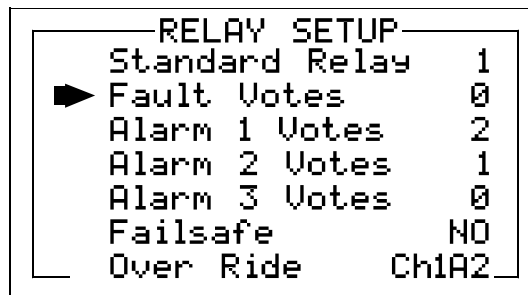

Figure 2.8
The menu shown in Figure 2.8 allows configuring of both the standard **Relay 1 & Relay 2** motherboard relays and the six optional relays on the 299-0003-01 discrete relay option PCB. Both standard and optional relays are programmed in this menu. Select the relay to be configured by pointing the arrow at the top menu item and pressing **EDIT**. The field will scroll through all eight possible relays (2 standard and 6 optional).
- **Fault, Alarm 1, Alarm 2, Alarm 3** menus in Figure 2.8 offers additional “voting” flexibility by controlling the channel alarm combinations that will trip the selected relay. Each *Votes* entry requires this quantity of channels, for of each type alarm be active before this relay activates. As illustrated in Figure 2.8 above, Standard Relay 1 activates when any 2 channels have Alarm 1 conditions, PLUS, any one channel has an Alarm 2 condition. And since the **Over Ride** menu (see description below) contains the **Ch1A2** entry Standard Relay 1 also activates if alarm 2 on channel 1 trips. Fault Votes and Alarm 3 Votes values are 0 therefore Fault and Alarm 3 conditions will not affect this relay. Votes follow the logical “AND” function.